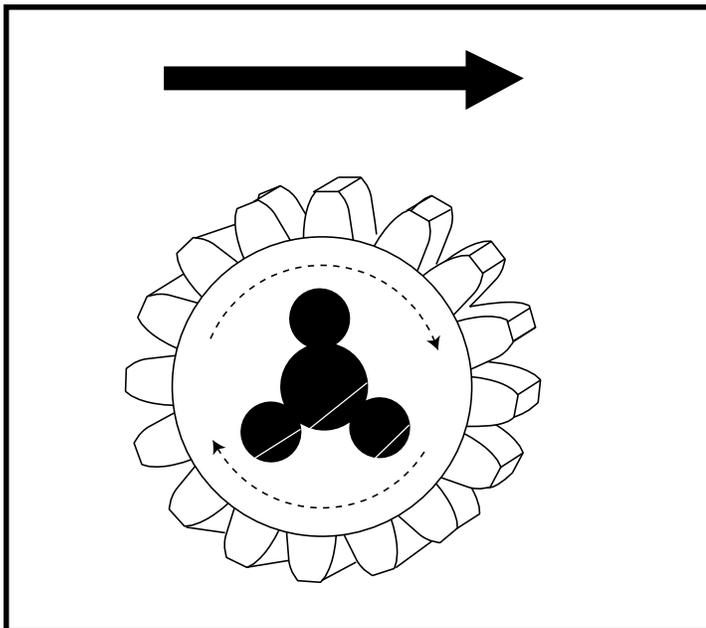

FIG. 7
* The pinions on both sides are the same. It is critical to assemble them in the correct position, see Fig 7. There are arrows embossed on the pinion. The arrows must point toward the front of the mower from the 'up' side. If the arrows point forward from the 'down' side, remove the pinion and place the other side down. Then install the three round Pawls and the E-Ring. DO NOT USE oil or grease on the pinions or wheels. Use WD40 or silicone lubricants only.